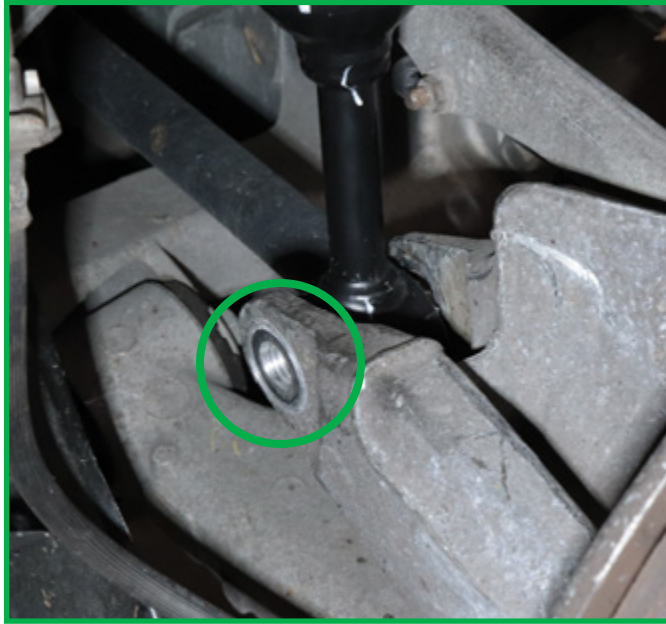

FIGURE 4
5. Remove the lower strut bolt. (Figure 4)